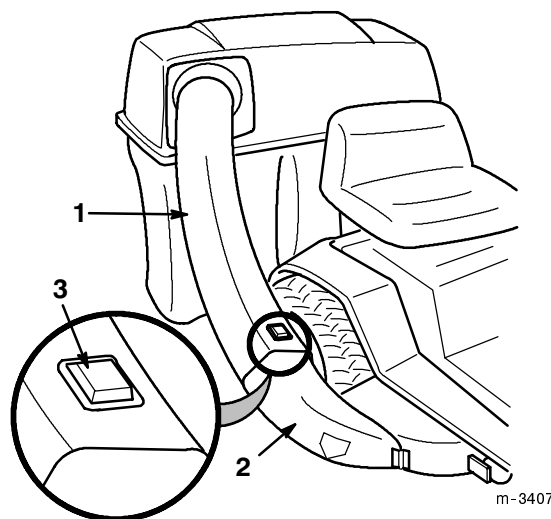

Figure 6
3. Slide the discharge tube into the opening in the grass catcher (Fig. 6).
4. Slide the discharge tube over the end of the chute, ensuring that the tab on the chute snaps into the square hole in the discharge tube (Fig. 6).
1. Push on the tab on the chute and pull the discharge tube free from the chute and grass catcher (Fig. 6)